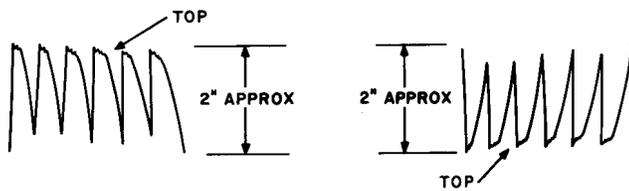

Fig. 2—Voltage Waveshape at Input to Filter
- (b) Adjust the sweep frequency so as to have six partial sine waves present on the oscilloscope as indicated in Fig. 2. The trace may appear as either one of the two figures shown. The height of the trace shall be approximately 2 inches. If all waves are approximately of equal height, the cores of the L1, L2, and L3 saturable reactors are balanced
- (f) The adjustment of any of the BAL potentiometers affects the lower position (opposite TOP Fig. 2) of two partial sine waves. If the height of any wave cannot be adjusted, it is an indication of a defective associated saturable reactor. Replace it and match the core characteristics of *all* of the saturable reactors as follows.
- (1) BAL 1 through BAL 6 balancing potentiometers of the saturable reactors shall be rotated maximum ccw.
- (2) Determine which balancing potentiometer affects the height of the longest half-wave viewed on the oscilloscope (longest is defined as the longest line from TOP as designated in Fig. 2).
- (3) Adjust this potentiometer until the two affected sine waves are of equal height.
- (4) Adjust all remaining potentiometers to equal this one.
- (5) With the vacuum tube voltmeter (or equivalent digital ac voltmeter) (see Caution) connected across terminals F and G of TS7 and using it as an indicator, readjust all balancing potentiometers to obtain minimum reading without regard to the possible slight unbalance on the oscilloscope.